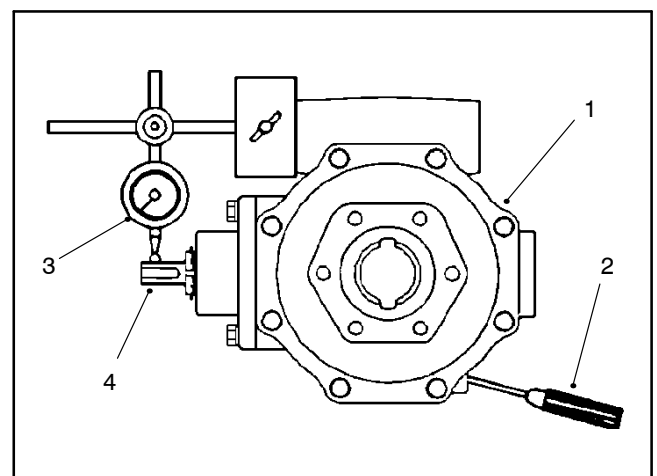

Figure 36
10. Insert a screwdriver through the drain plug hole to hold ring gear and measure the pinion gear to ring gear backlash (Fig. 36).